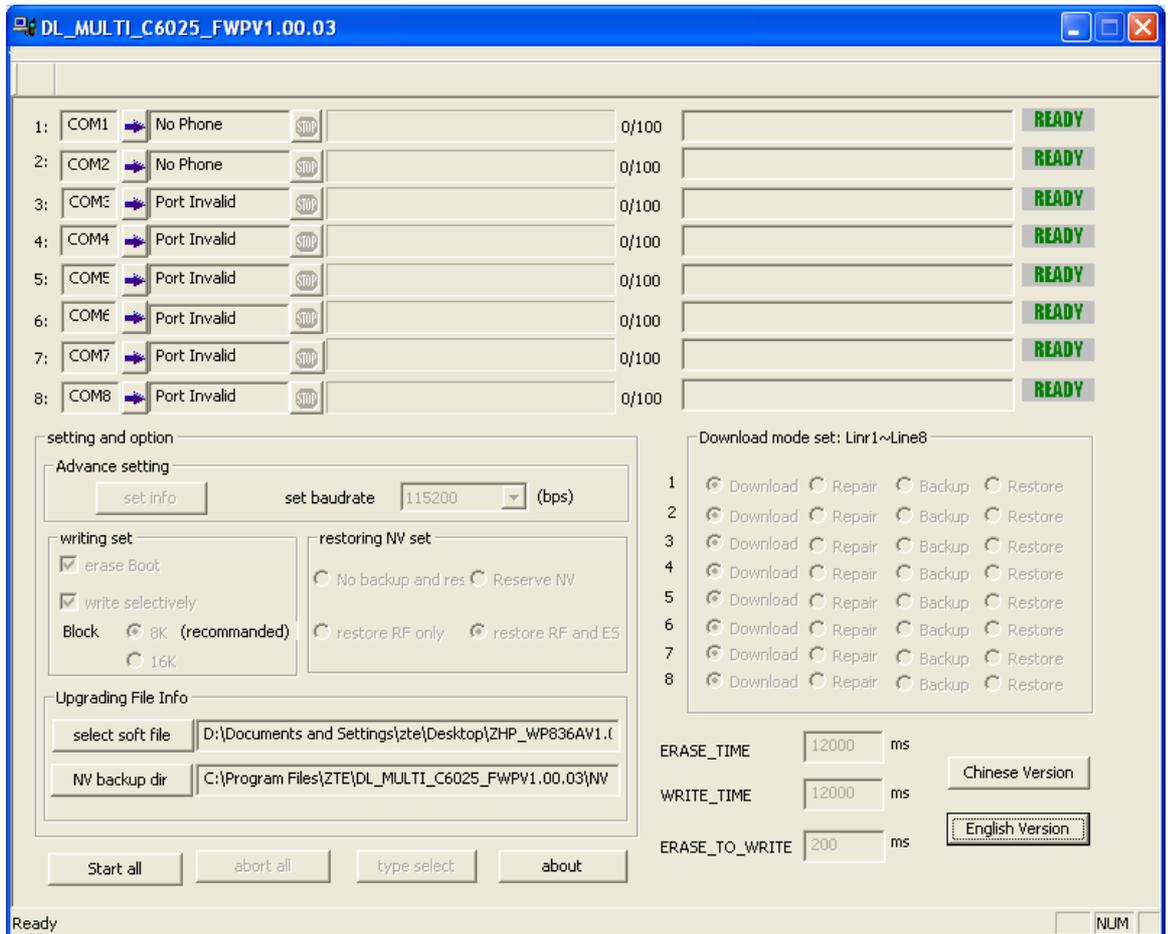

fig.1.
- (1) Startup computer.
- (2) Find the file “DL_MULTI_C6025_FWPV1.00.03.exe” in corresponding folder.
- (3) Double-click the file, start up Download application. The host interface of the application is shown as fig. 1.